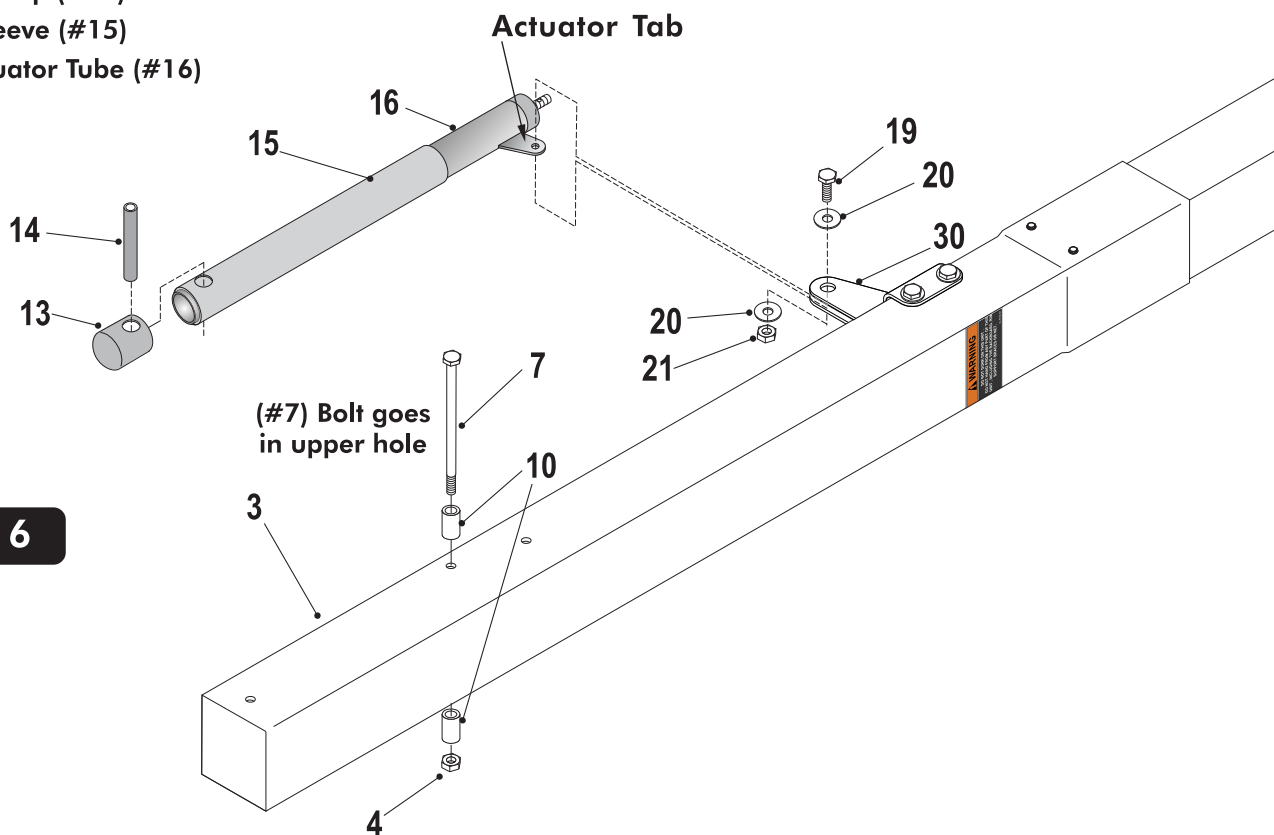

Figure 6
5. If not already pre-assembled, slide Plastic Actuator Sleeve (#15) over Steel Actuator (#16) and place Actuator Cap (#13) on top. Align holes in all 3 parts and slide Pivot Tube (#14) through holes in Actuator Cap (#13), Plastic Actuator Sleeve (#15) and Steel Actuator Tube (#16) until equal amounts stick out through both sides of actuator. See **Figure 6**.
6. While still on the two padded saw horses, Slide tab on Actuator (#16) between Post Ears (#30) and secure using one bolt (#19), two washers (#20) and one lock nut (#21). Tighten Lock Nut (#21) snug but **do not over tighten**. See **Figure 6**.
7. Secure two stop spacers (#10) to pole, as shown in **Figure 6**, using one hex bolt (#7) and one lock nut (#4). Tighten Lock Nut (#4) but **do not over tighten**.